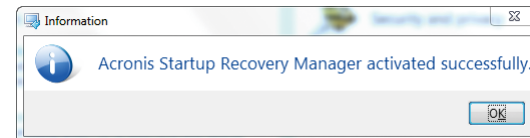

Figure 3: The Information for Startup Recovery Manager
Step 2. Click **Activate**, then you will see the successful information. (Figure 3)